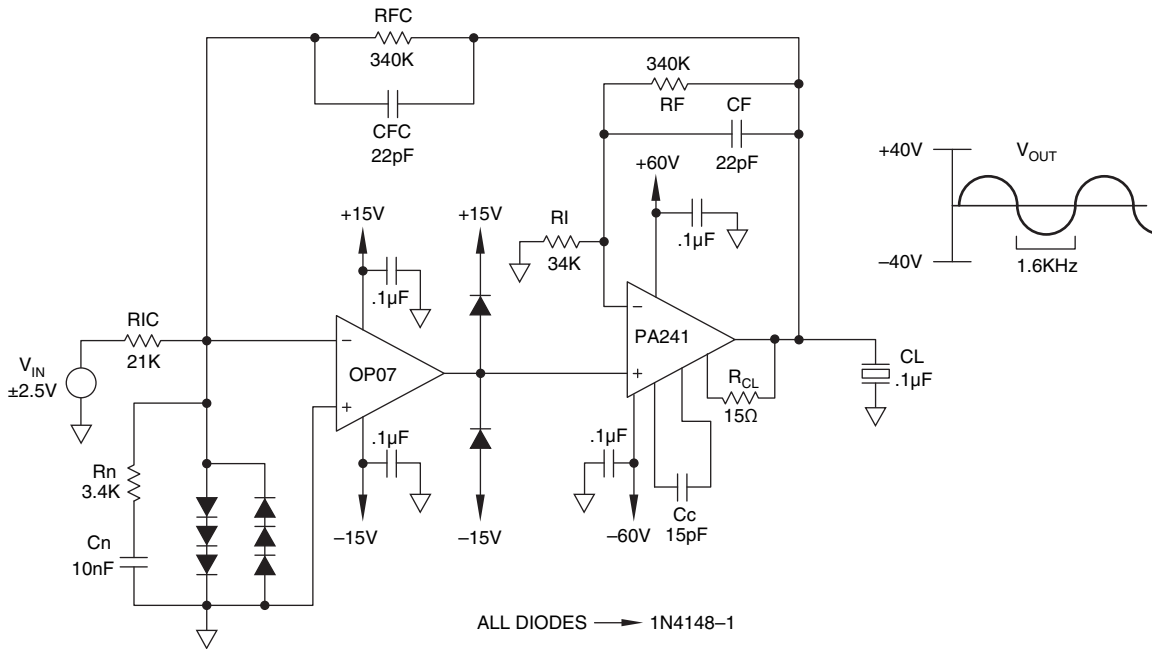

FIGURE 33. PA241 COMPOSITE PIEZO TRANSDUCER DRIVE
There are design cases where the input characteristics of a power op amp may not be sufficient to meet required specifications. In these cases one can still have the advantages of using the power op amp for linear analog control, but can optimize the front end of the circuit to meet the required specifications. A composite amplifier such as Figure 33 (see following page) will provide a highly accurate 75uV input offset voltage versus the 40 mV input offset voltage of the PA241. In the composite amplifier, the PA241 acts as a booster running in a closed loop gain of 11. The PA241 “booster” and the OP07 form a new composite amplifier with the feedback from output all the way back to the input of the OP07.
The application in Figure 33 (next page) provides an excellent opportunity for us to utilize our knowledge of stabilizing circuits with capacitive loads, as well as acquire new techniques for dealing with stability and composite amplifiers.
We will run the booster amplifier in a closed loop gain of 11 as shown in Figure 33 to allow more margin to work with when compensating the capacitive load. We know this from experience in designing many power op amp circuits with capacitive loads on the output.
P.S. — Refer to Figure 33. The 1N4148-1 diodes on the input of the OP07 provide differential and common mode overvoltage protection from transients through CFC. Piezo elements